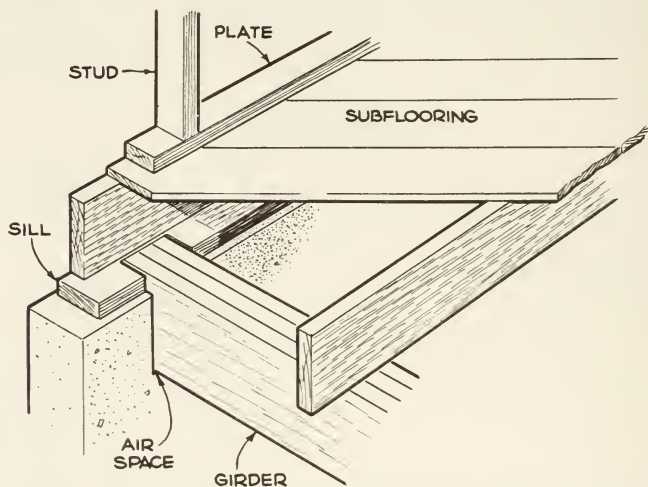

Fig. 4. Platform frame construction.
**PLATFORM AND BALLOON FRAMING.** The popularity of these two methods varies in different parts of the country. In platform frame construction (Fig. 4), floor joists are laid on the sills and a subfloor of diagonal boards is nailed on top of the joists. Then 2-by-4 sole plates are nailed around the edges of the floor in a flat position. The vertical studs—2-by-4s that form the walls and support the second floor and roof—are set on the sole plates. Similar top plates, usually doubled, are nailed across the upper ends of the studs. If there is to be a second floor, joists are laid on these plates, a second sub-
In platform frame construction, pockets are sometimes formed in foundation walls for the ends of girders, sinking them to the level of the sills (Fig. 4). There should be  $\frac{1}{2}$ " of air space at the ends and sides of the girders to avoid subjecting them to excessive moisture, unless they are of durable or treated wood.